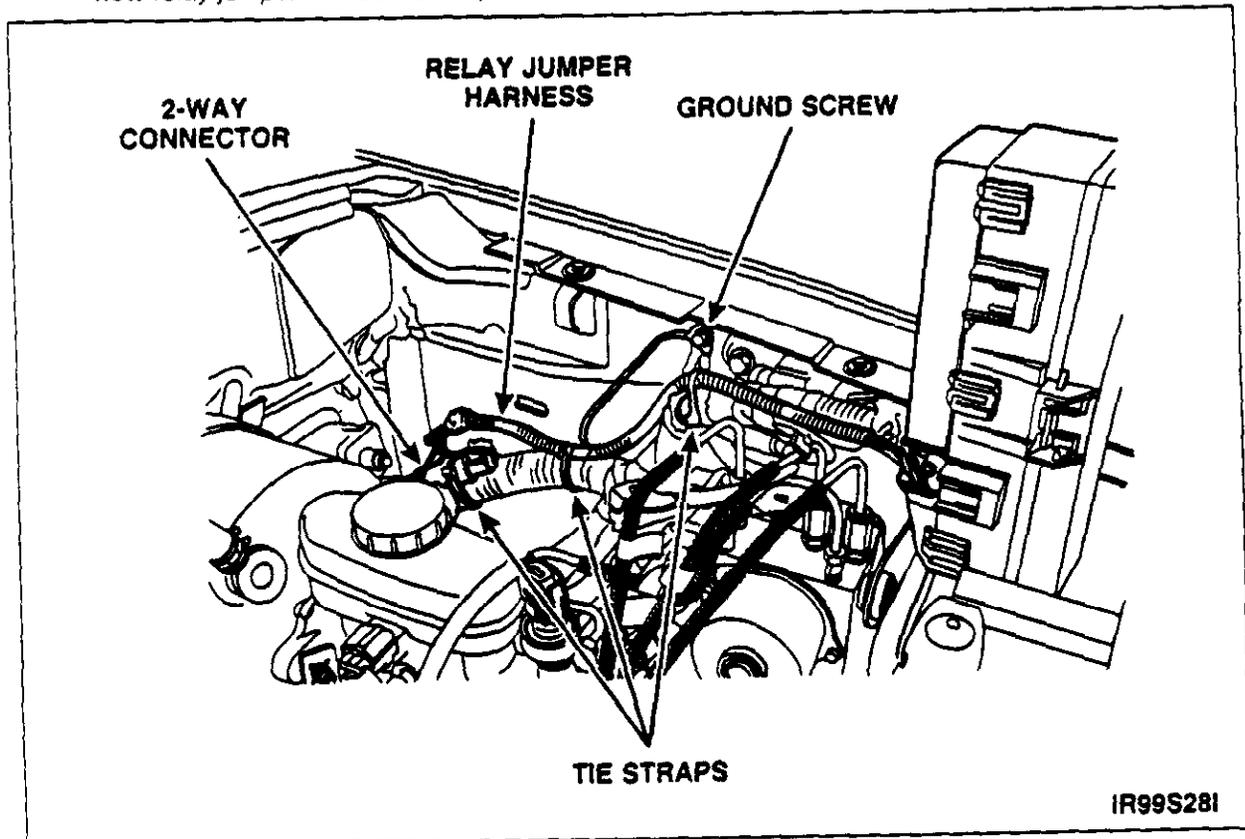

FIGURE 9
26. Remove the ground screw from the LH inner fender. Install the *new* relay jumper harness ground eyelet terminal. Tighten the screw to 8 Nm (71 lb-in). See Figure 9.
27. NOTE: The 2-way connector and harness must be secured to eliminate any noise concerns. Secure the 2-way connector to the power distribution harness with one (1) tie strap. Secure the *new* relay jumper harness to the power distribution harness with two (2) tie straps. See Figure 9.